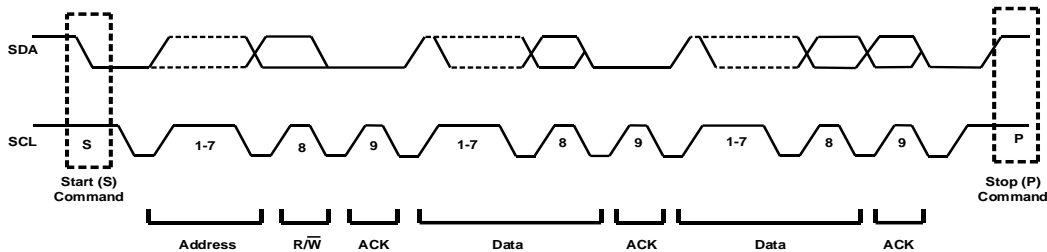

Figure 8: Complete Data Transfer
Figure 8 shows the format for data transfers. After the start command (S), a slave address is sent. This address is 7 bits long, followed by an eighth data direction bit (R/W). A 0 indicates a transmission (write), and a 1 indicates a request for data (read). A data transfer is always terminated by a stop command (P), which is generated by the master. If the master wants to communicate on the bus, it can generate a repeated start command (Sr) and address another slave without first generating a stop command.